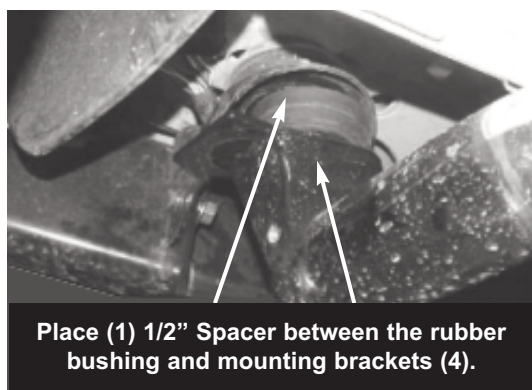

Figure 4 - 1/2" x 1.88 x 3/16" Spacer
2. Remove existing body mount bolts, do not discard rubber bushing. Install the front bracket to the front body mount (**See Figure 1, 5**) by replacing the factory bolts with (1) M12 – 1.75 x 120mm bolt, 1/2" lock washer, and 1/2" flat washer. Place the 1/2" x 1.88 x 3/16" spacer between the bracket and the rubber bushing and hand tighten. (**See Figure 4**) Repeat Step #2 on opposite side.